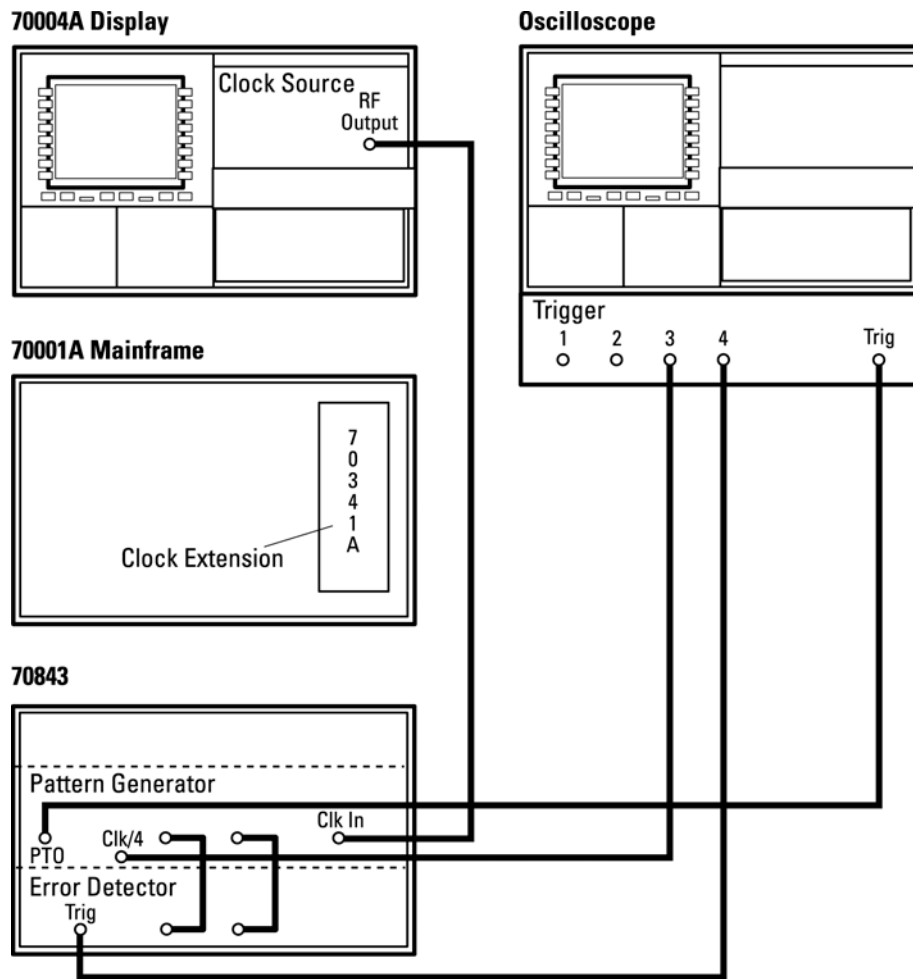

Figure 11-15
1. With the equipment set up as in Figure 11-15, select a fixed error rate of  $1\text{E}-3$ .
**Configure the equipment as in Figure 11-15.**
Configure the equipment as in Figure 11-15.